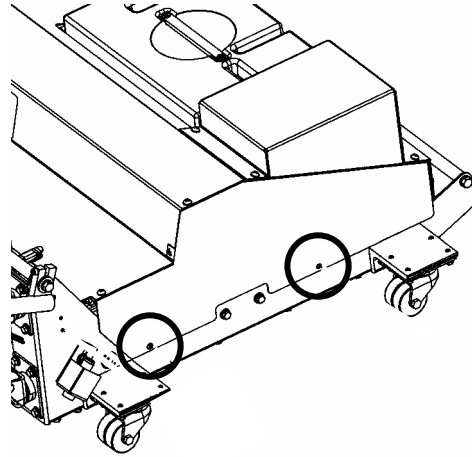

Figure 4-12
1. Remove the two screws, shown in Figure 4-12, from both sides of the hood and lift the hood from the frame. Set aside the screws.